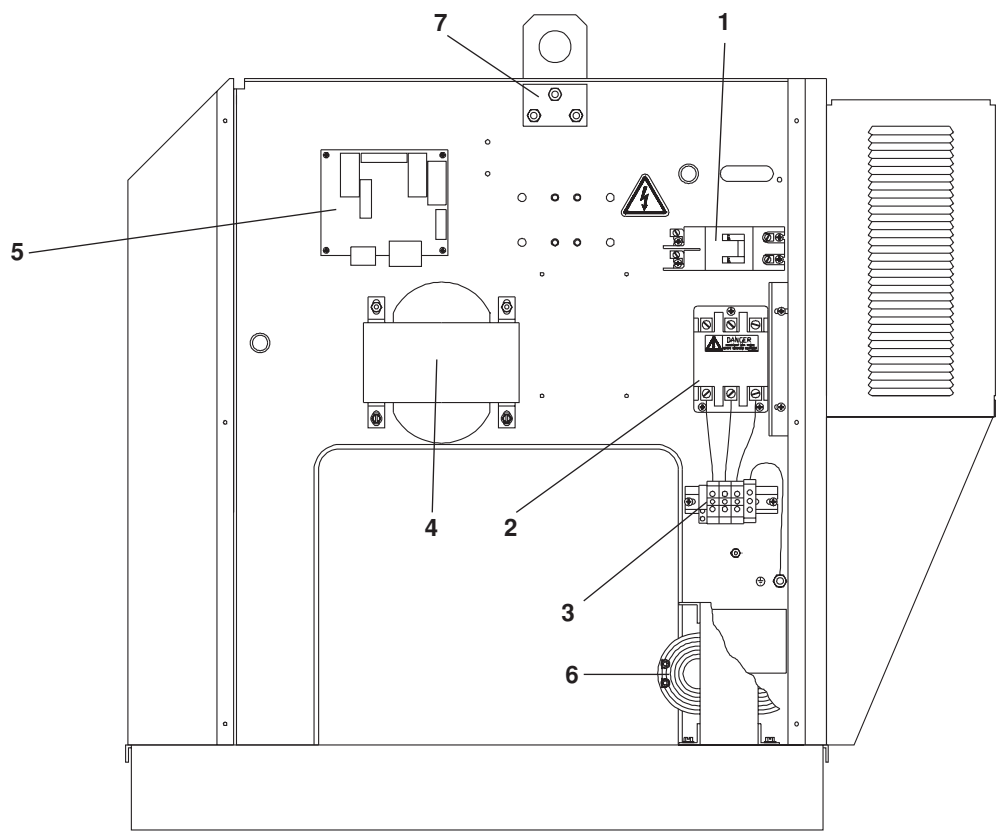

Figure 6-4 HT2000LHF Power Supply – Center Wall Right Side
** Items not shown in Figure 6-4